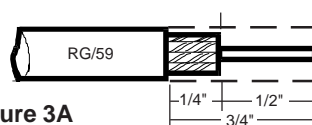

Figure 3A
STEP 5. Slide weather boot from matching transformer onto coax. To install the F-connectors, strip the ends of the RG-59 cable as shown in Figure 3A.